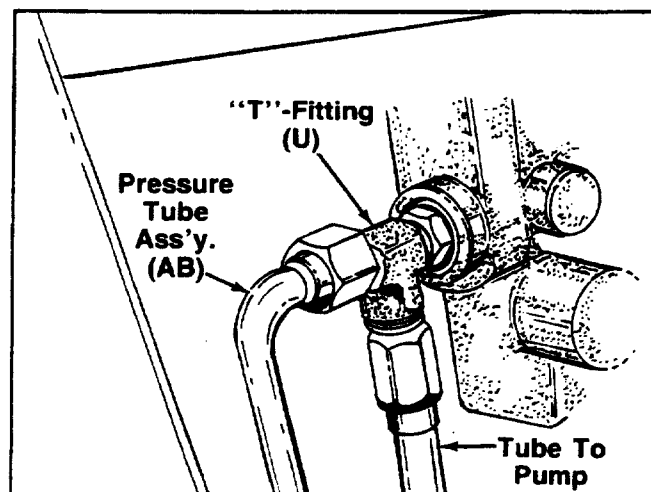

FIGURE 19.
- C. Reassemble the tube (disconnected in step "A" below) to the bottom of "T"-Fitting. See figure 19.